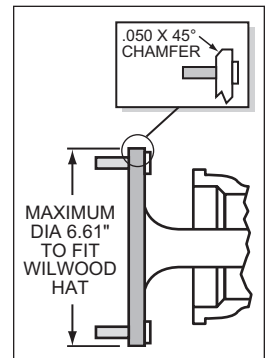

Figure 3. Axle Flange Maximum Dimension
- Maximum axle flange diameter must be no larger than 6.61" w/.050" x 45° chamfer (see Figure 3).